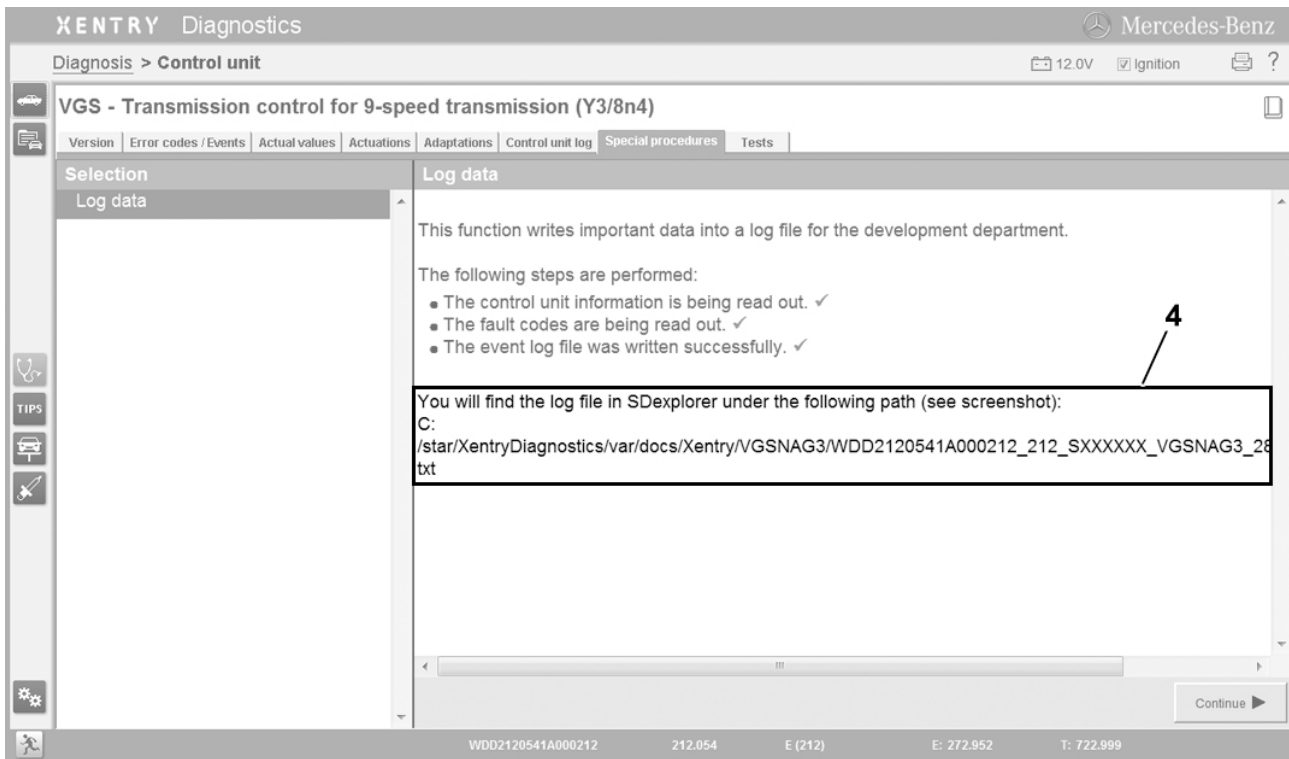

Figure 2.
4. Data is stored in the “User data range as a text file with vehicle identification number (VIN) and date (Figure 2).